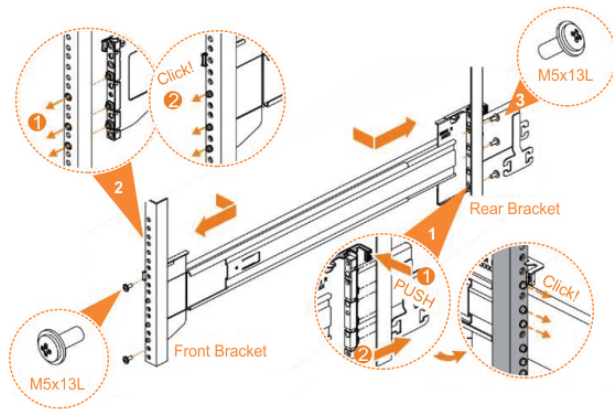

Figure 58. Installing the rail assembly to the rack frame
6. Use the M5 screws to install the outer rail member and bracket assembly to the rack, as shown in Figure 58 on page 56.